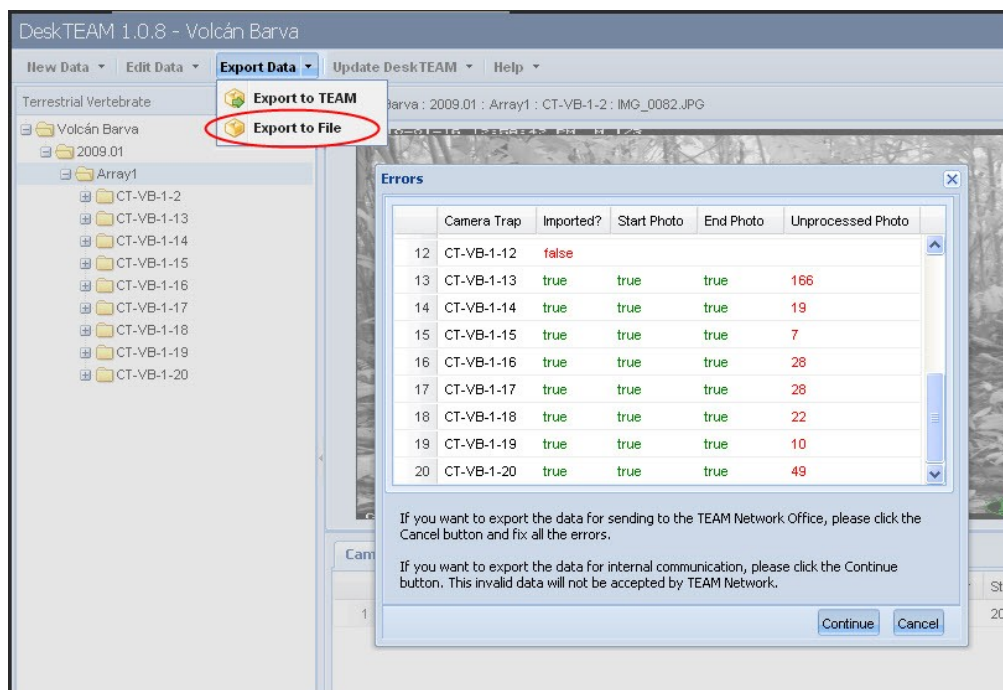

Figure 17. Screenshot depicting the location of the export commands. The image also shows DeskTEAM's error checking system.
- b) If there are errors (marked as red text), click “Cancel” and correct them. Try to export again after making corrections. Refer to Figure 17 for a screenshot of an attempted export procedure with errors. Proceed directly to sub-step d).
- c) If the site is **using multiple computers to process the data**, please note that some of the camera traps will show errors in the Imported? column (see camera trap CT-VB-1-12 in Figure 17) when exporting if some of the camera traps from the selected array have not been loaded on that computer. This is OK. Click Continue and DeskTEAM will create an export file with the word “incomplete” in the file name. This file will eventually be merged with the other export files when combining them all on the Master Computer.